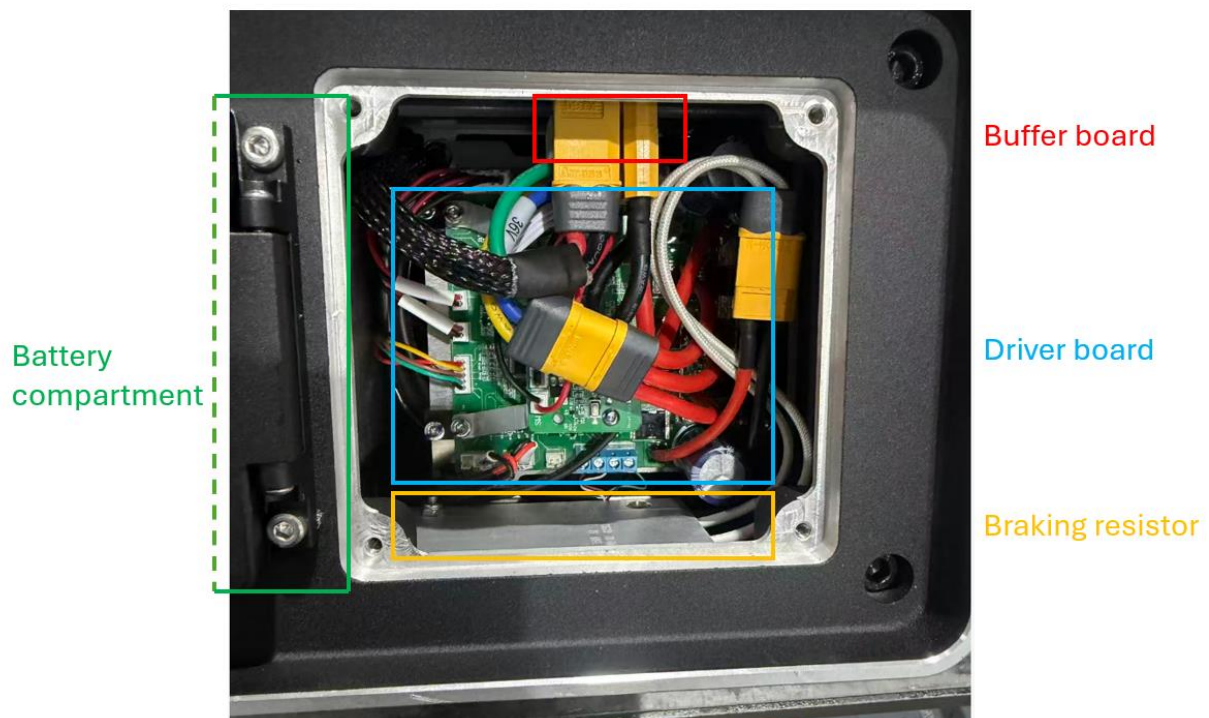
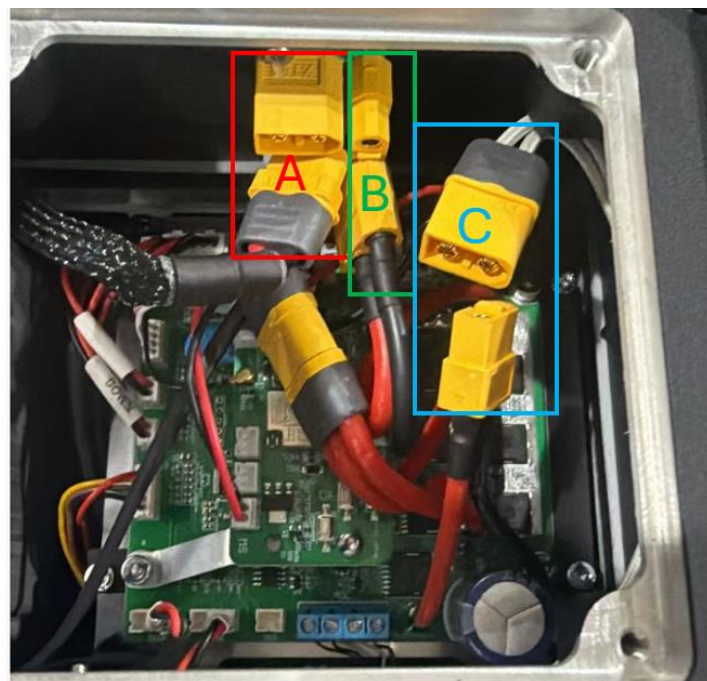

Figure 10 Inside configuration of extended housing
Figure 11 Three cable connectors to be disconnected
- 4) **Disconnect electrical cables:** The configuration inside the electrical access port is shown as figure 10. Disconnect the three cable connectors shown in figure 11: